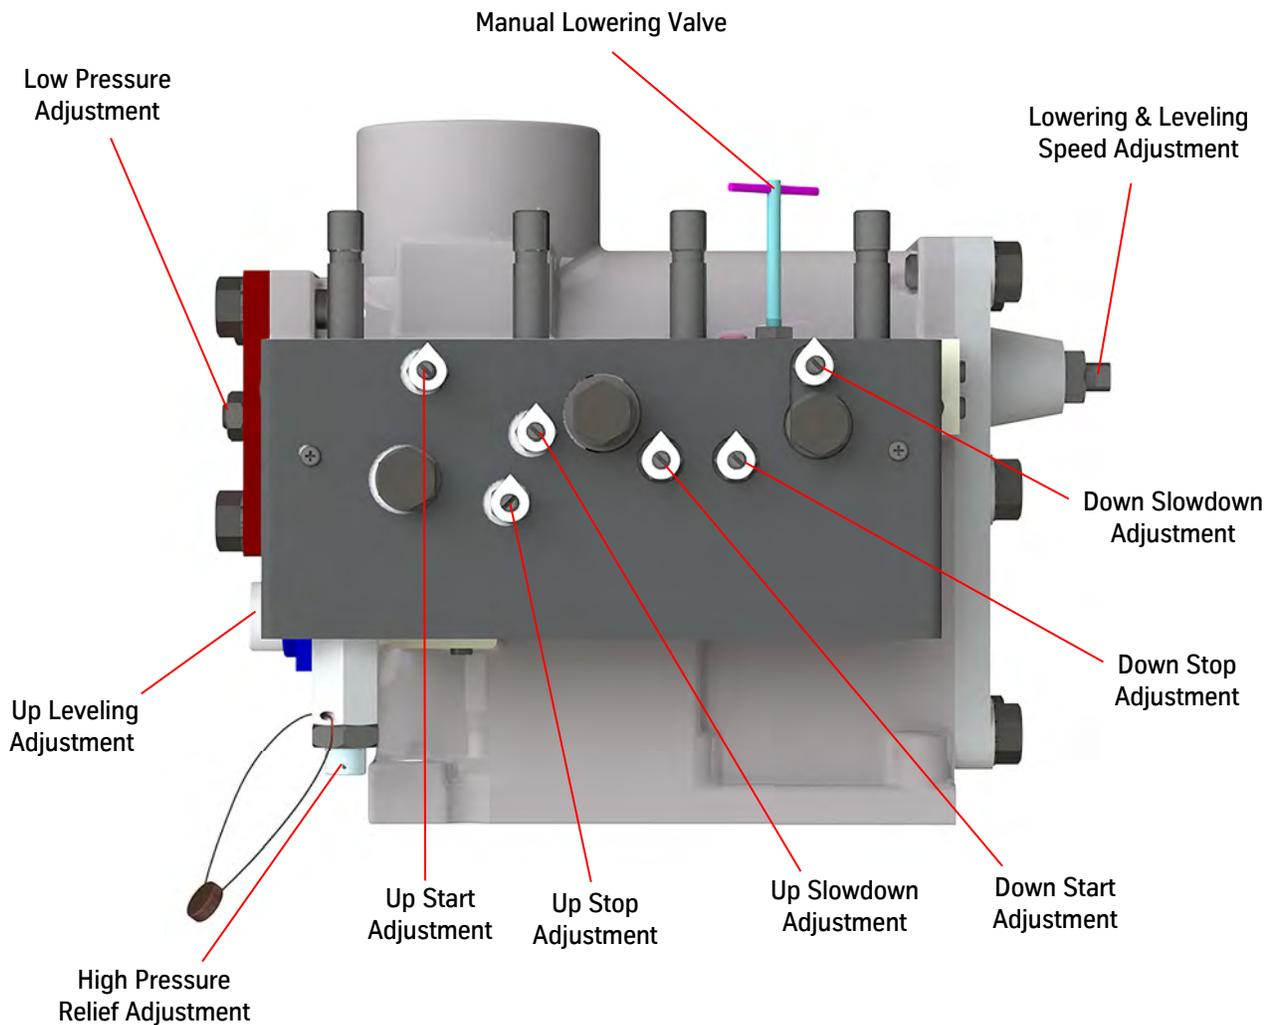

Figure 12 - I-2/I-3 Valve
4. Turn the Low Pressure adjustment screw OUT $1\frac{3}{4}$ " beyond the cover plate. See Figure 12 on page 1-16.